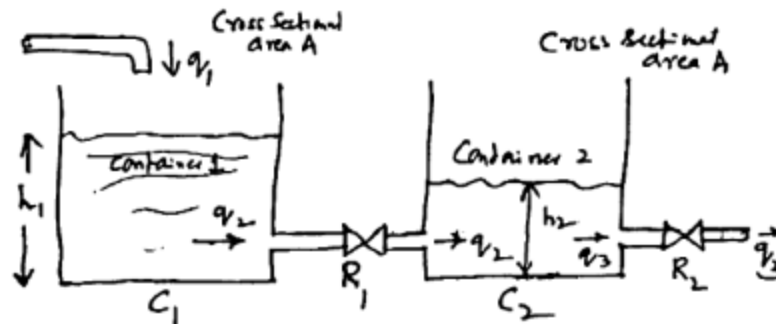

Figure 1
1. Derive the relationship between the height h_1, h_2 and time for the hydraulic system shown in Figure 1 given below. Neglect inrtance.